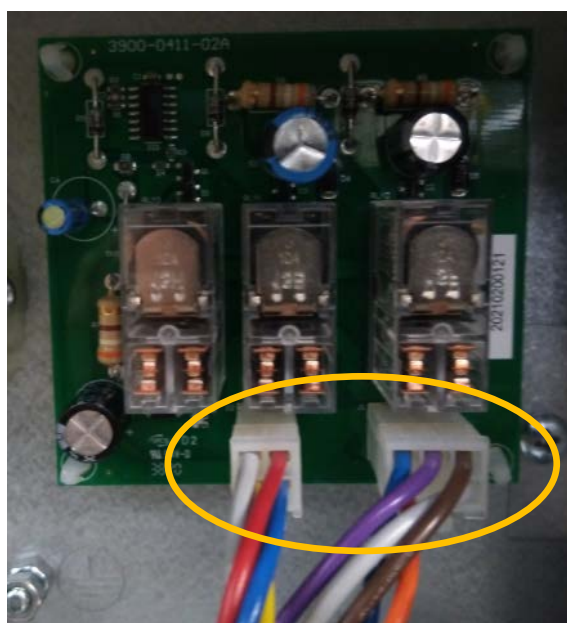

Figure 10
- As per Figure 10 and 11, disconnect the two connectors from the auto-reset PCB. Disconnect connectors from the j-box earth dish (**do not disconnect black cable**).